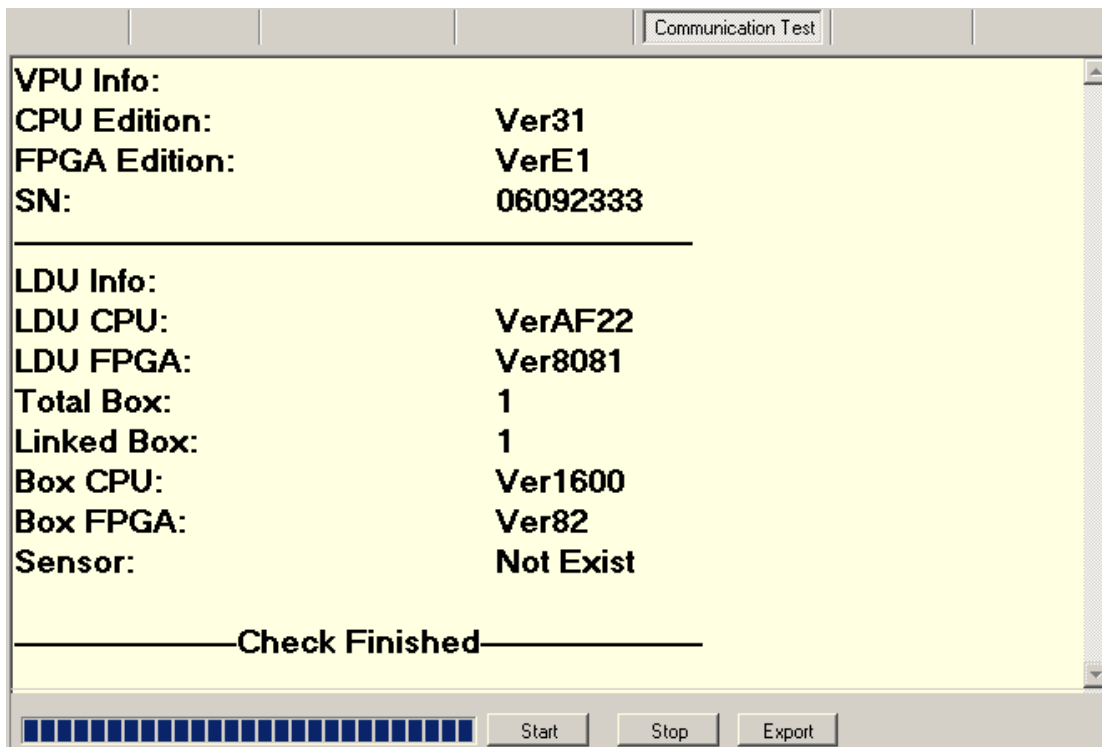

Fig. 24 Communication Test interface
Click the "Communication Test" button in Advanced Setting interface to switch to the Communication Test interface (as Fig. 24 below) to test the communication status.
- The test result will be refreshed to the communication test interface (see Fig.. 24)